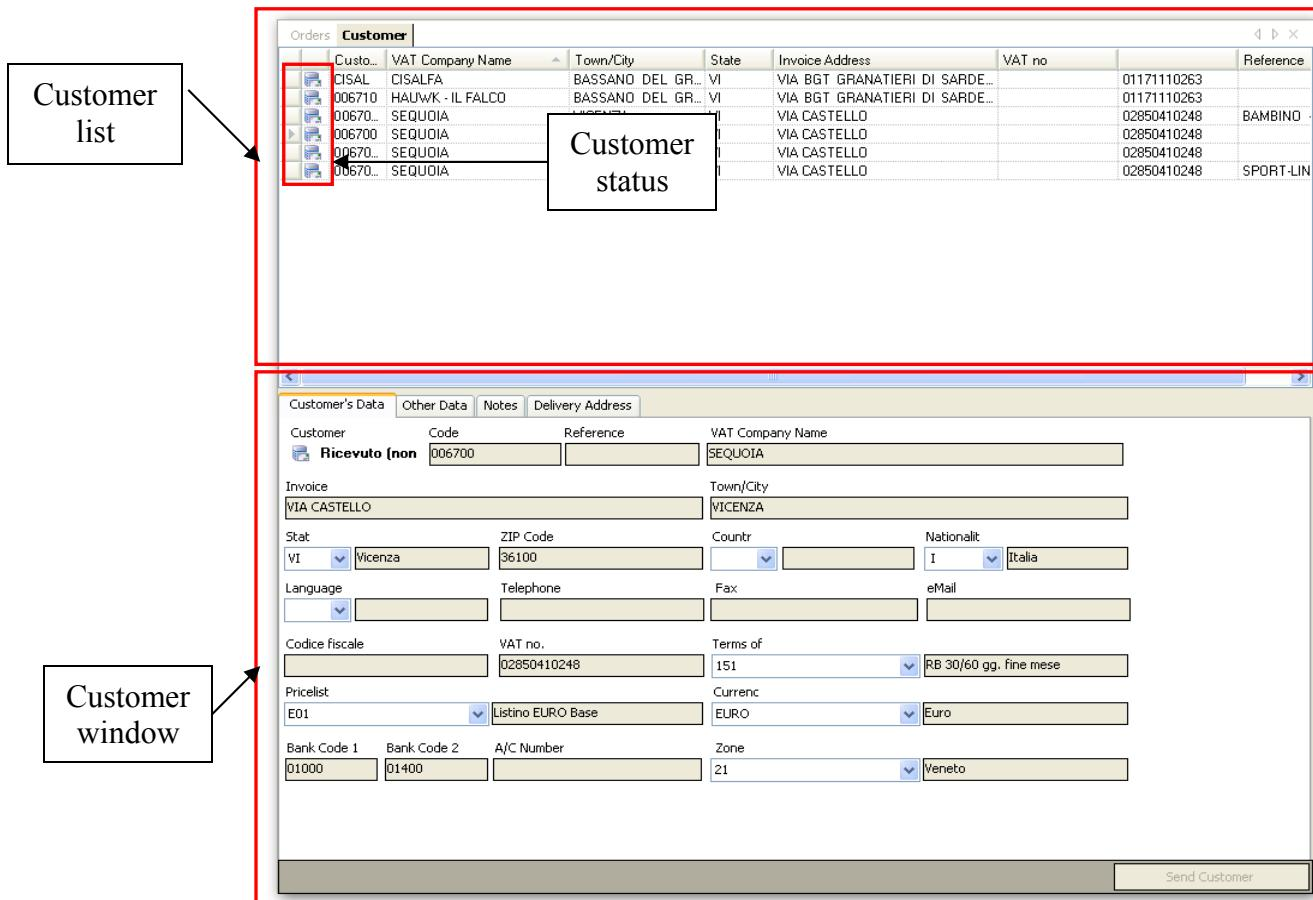

Fig. 21 - Customer list window and Customer window
In the right section of the screen, the "Customer list" window and the "Customer window" will be displayed (Fig. 21).
The symbol in the red area is the "Customer status" (Fig. 21). It can be:
- Transmitted:** the customer has been transmitted to the company. The customer receipt by the company is confirmed when the status is displayed as "Received", with the attribution of a code (visible in the third column of the "Customer list" window, Fig. 21).
The confirmed customer cannot be changed anymore. It will be automatically sent to the company by clicking on "Send and receive". The customer receipt by the company is confirmed when the status turns to "Received", with the attribution of a code (visible in the third column of the "Customer list" window, Fig. 21).